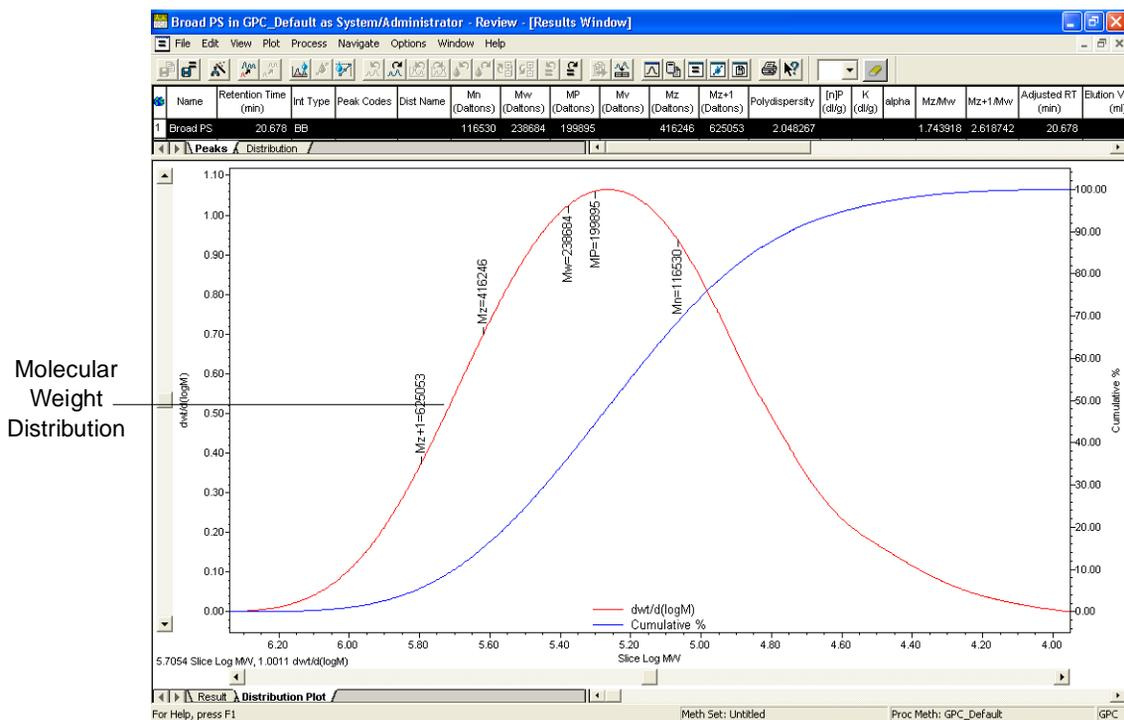

Figure 3-19 Molecular Weight Distribution Plot
1. Select **Window > Results** from Review. The Results window appears (Figure 3-19).
1. Check the molecular weight averages in the Peaks table (Figure 3-19).
2. Check the shape of the Molecular Weight Distribution plot (Figure 3-19).
3. Check the values in the Molecular Weight Distribution table. Click the **Distribution** tab at the top of the Results window (Figure 3-19) to see the table.